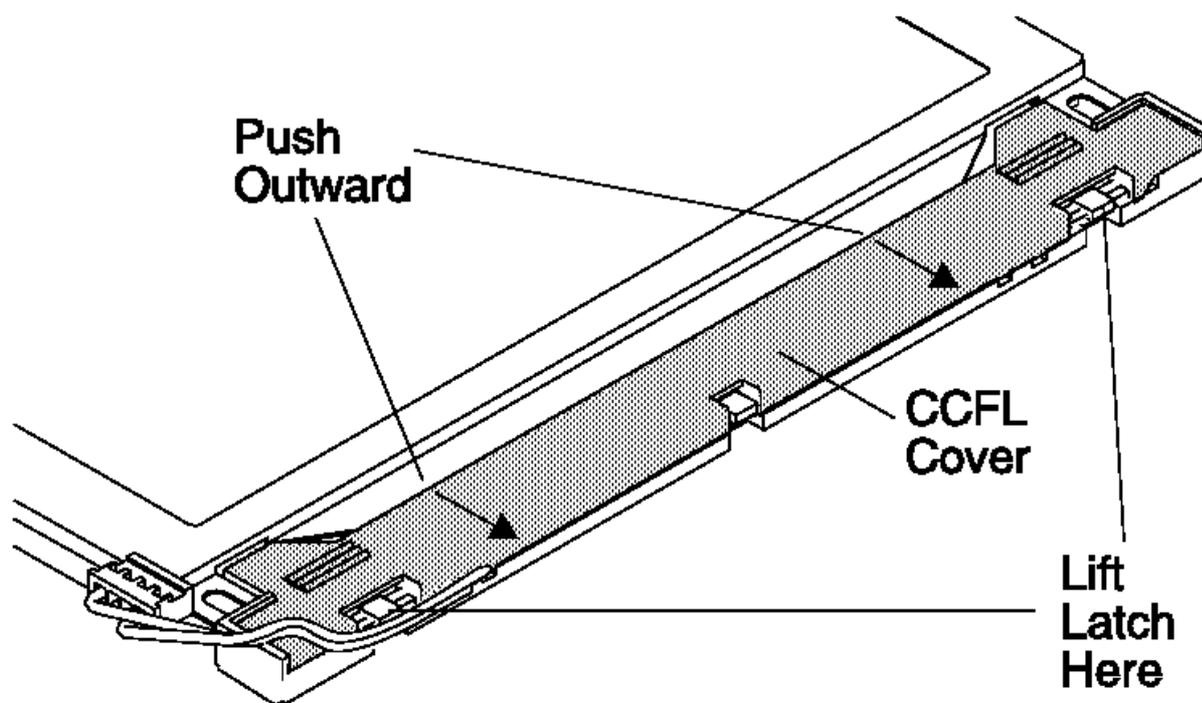

Figure 3-5. Opening the CCFL Front Cover
3. Remove the CCFL cover by lifting the latches and pushing the cover outward as shown in Figure 3-5.
- b. Be sure that CCFL cables are seated completely into the groove and routed over the corner of the cover as shown in Figure 3-5.